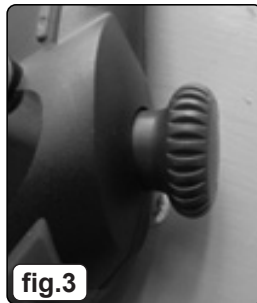

fig.3
- 4.1.2. Ensure that the control knob is turned off (fully clockwise) before assembling (fig.3).
- 4.2.3. Turn knob (fig.3) to allow gas to be primed.
- 4.2.5. Adjust the flame by turning the control knob (fig.3) either clockwise (-) or anti-clockwise (+).